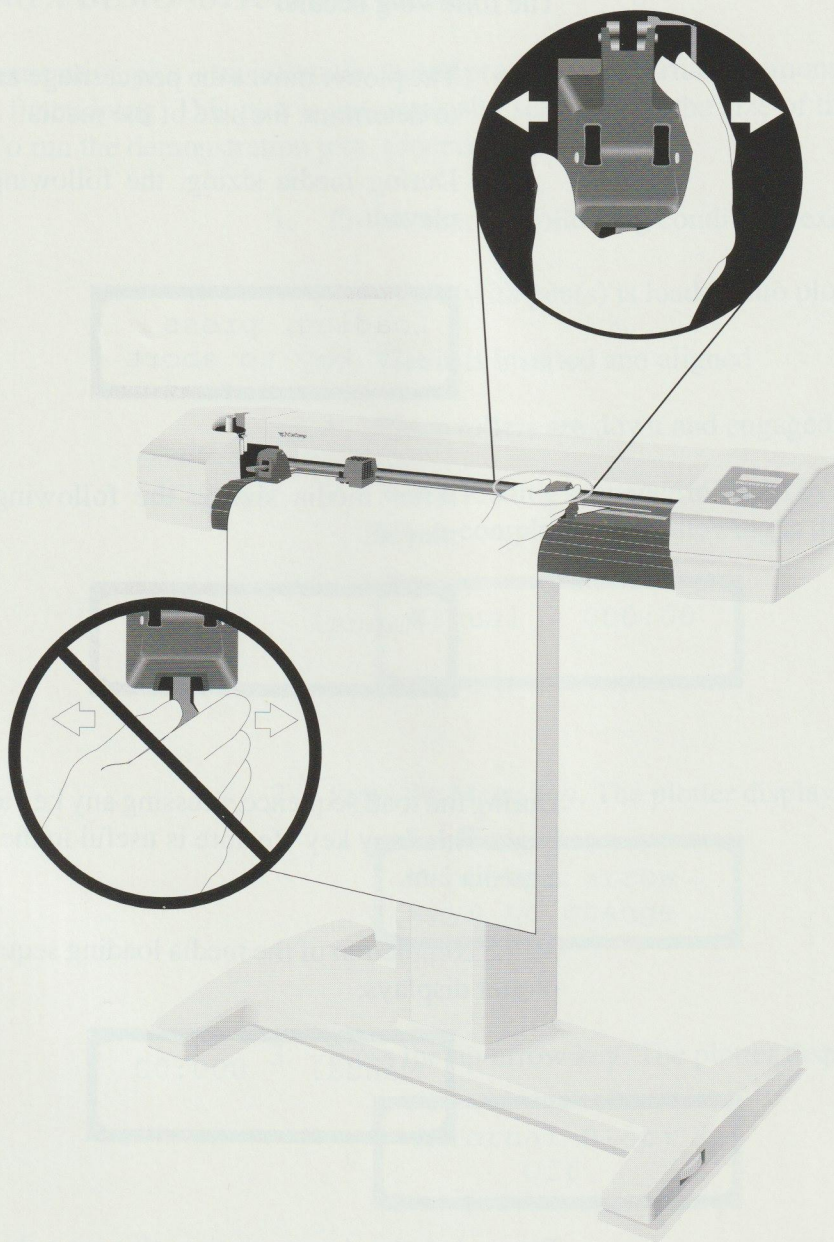

Figure 1-9. Pinch Roller
5. With the pinch rollers up, slide the right pinch roller over the right edge of the sheet. Move the roller by its "body" rather than by its lever. Refer to Figure 1-9.